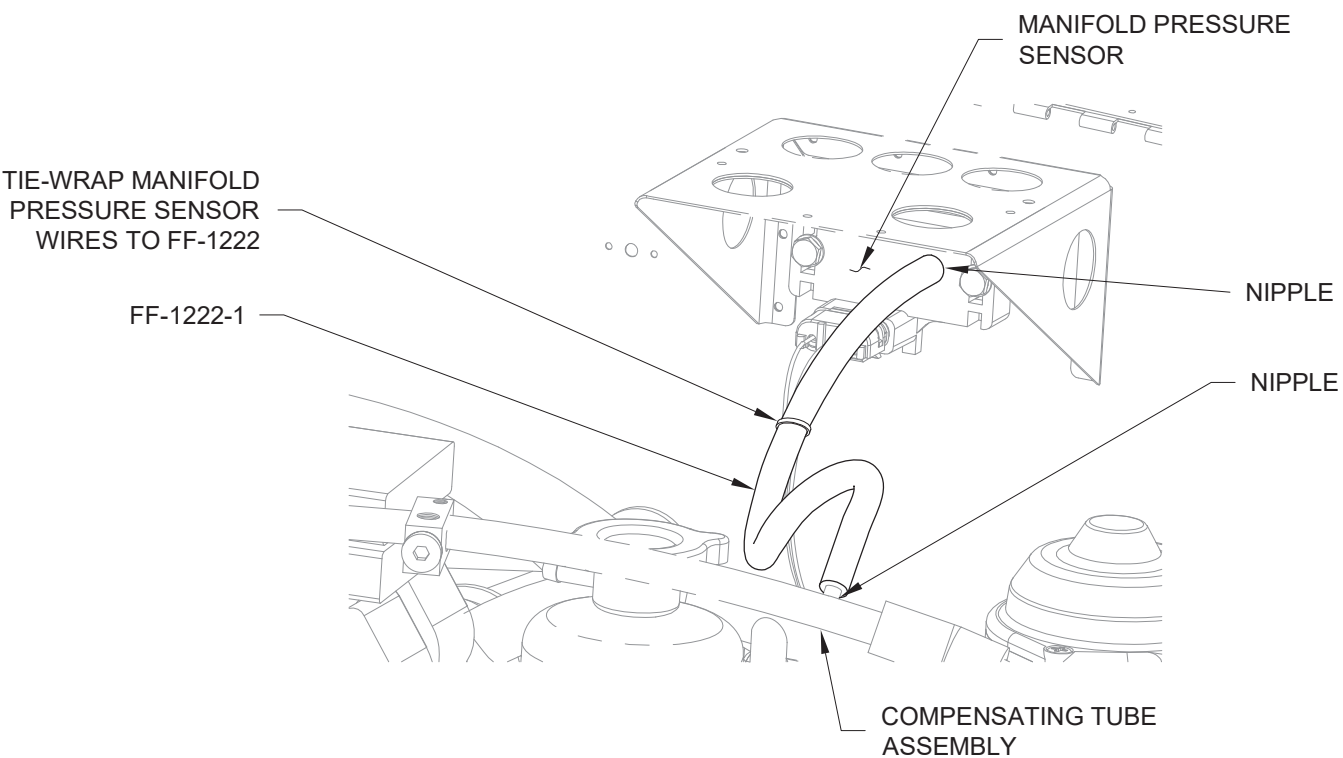

FIGURE 3: ATTACH THE MANIFOLD PRESSURE HOSE
Step 3: Attach one end of the FF-1222-1 Manifold Pressure Hose to the nipple on the compensating tube assembly. Attach the opposite end to the nipple on the Manifold Pressure Sensor. Hose clamps are not required. See Figure 3.